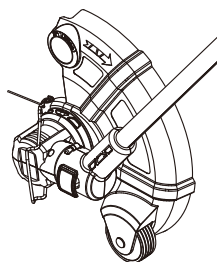

Fig. 10
2. Press the button labeled "Press for Edging" (2) to rotate the trimmer head to vertical position automatically as (Fig. 10).